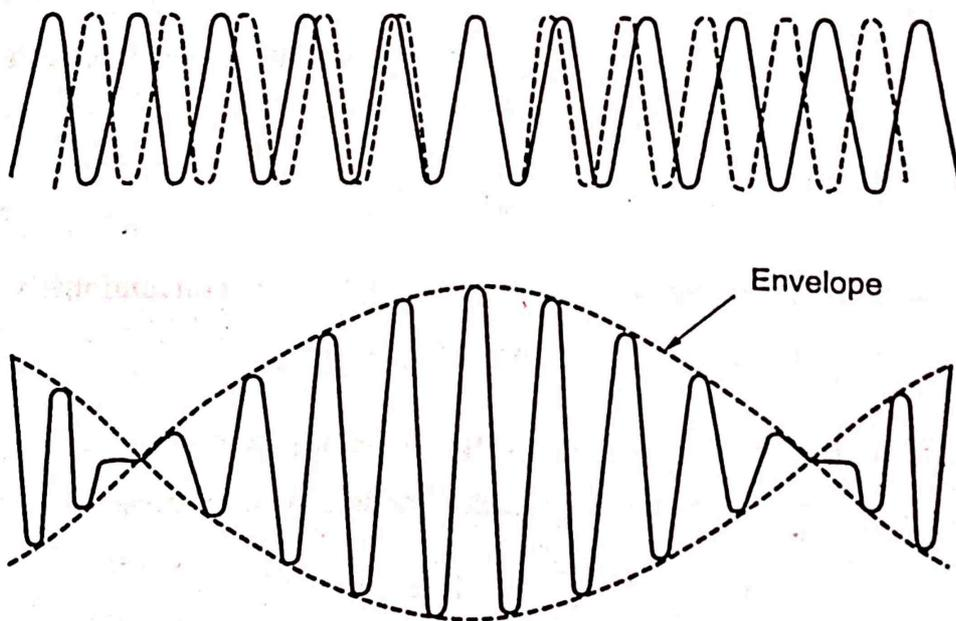

Fig 2.4 The formation of a wave packet and the envelope of the wave package or group of waves travels at a group velocity v_g .
- ♣ A group of waves with closely similar frequencies propagate and their resultant forms a packet of waves. The formation of such a wave packet resulting from the combination of two waves of slightly different frequency propagating together is illustrated in Fig 2.4.